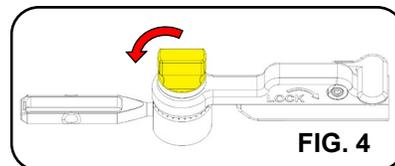

FIG. 4
2. Open the thumb screw by rotating it counterclockwise until it stops (FIG. 4)